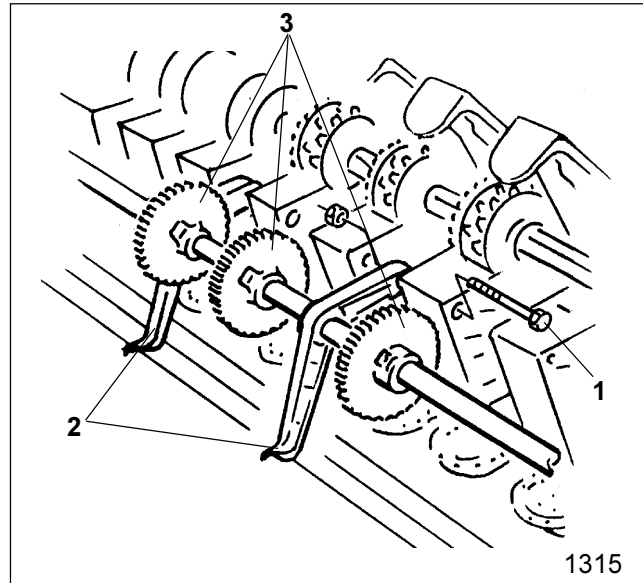

Fig. 18.27
- Unbolt the swivel bearings (Fig. 18.27/2) which are fixed by a hex. bolt (Fig. 18.27/1) to the old tramline seed metering wheels.
- Slacken the drive pinion (Fig. 18.27/3) and slide them along on the counter shaft to the desired position.
- Fix swivel bearing (Fig. 18.27/2) on the new tramline seed metering wheels.